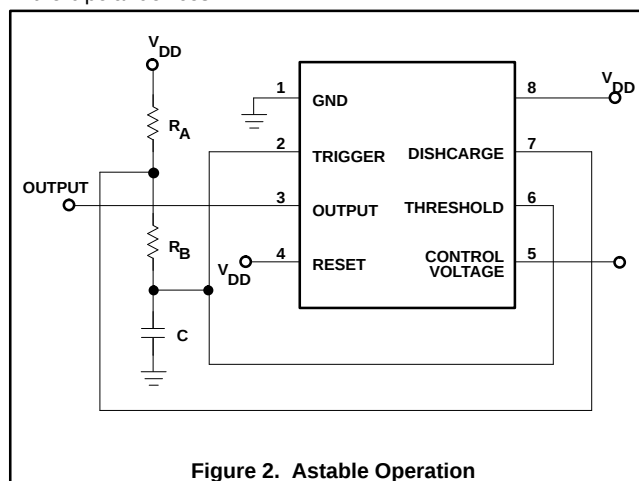

Figure 2. Astable Operation
2. Astable timing is calculated using the following equation:  $f = \frac{1.38}{(R_A + 2R_B)C}$ . The components are defined in Figure 2.
Although the supply current consumed by the ICM7555 device is very low, the total system supply can be high unless the timing components are high impedance. Therefore, high values for  $R$  and low values for  $C$  in Figures 2 and 3 are recommended.
If the circuit is connected as shown in Figure 2, it will trigger itself and free run as a multivibrator. The external capacitor charges through  $R_A$  and  $R_B$  and discharges through  $R_B$  only. Thus, the duty cycle (D) may be precisely set by the ratio of these two resistors. In this mode of operation, the capacitor charges and discharges between  $1/3 V_{DD}$  and  $2/3 V_{DD}$ . Since the charge rate and the threshold levels are directly proportional to the supply voltage, the frequency of oscillation is independent of the supply voltage.